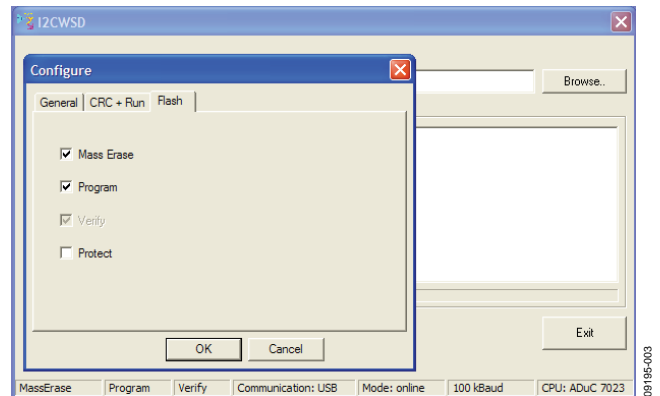

Figure 3. I2CWSD Configure Options
3. Click **Configure** and select the settings shown in Figure 3.